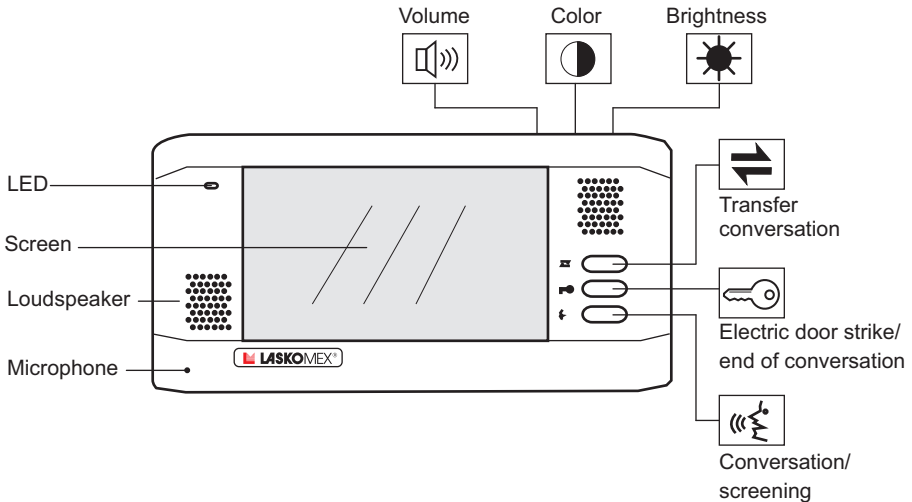

Figure 1. MVC-6502 videomonitor
- Push button ☞ (conversation - see Figure 1) to launch voice communication. In the case of two monitors mounted, once the voice communication is launched on one monitor, the other one switches off.
- It is possible to set volume, color and brightness on the MVC-6502 monitor (see Fig.1).